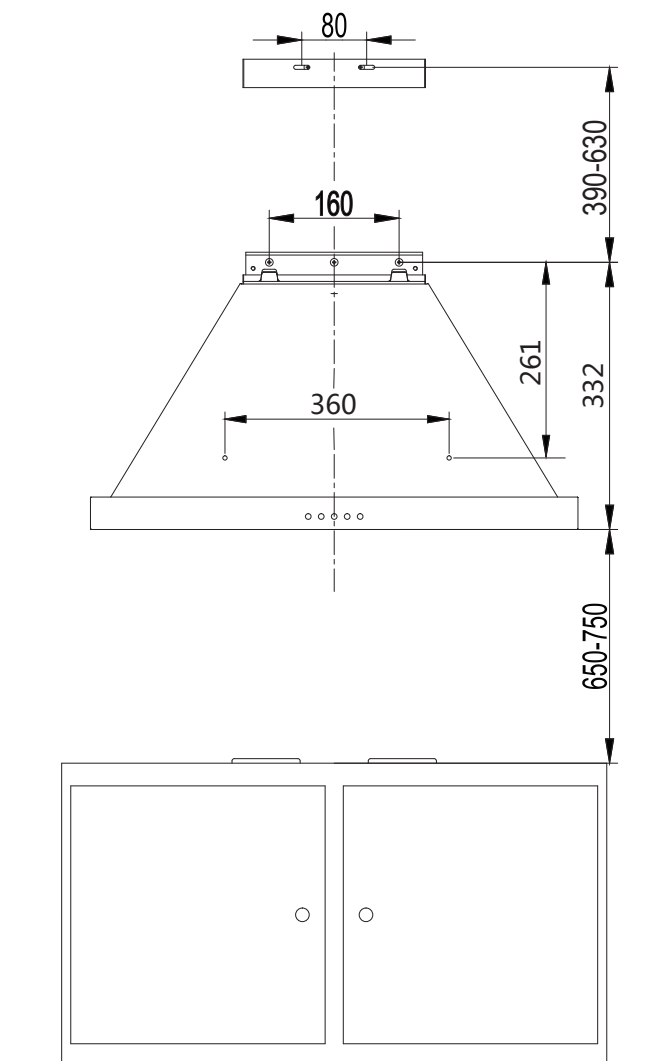

Fig.2
- The cooker hood should be placed 650~750 mm up from the cooking plane for safe and a good effect. See Fig.2.